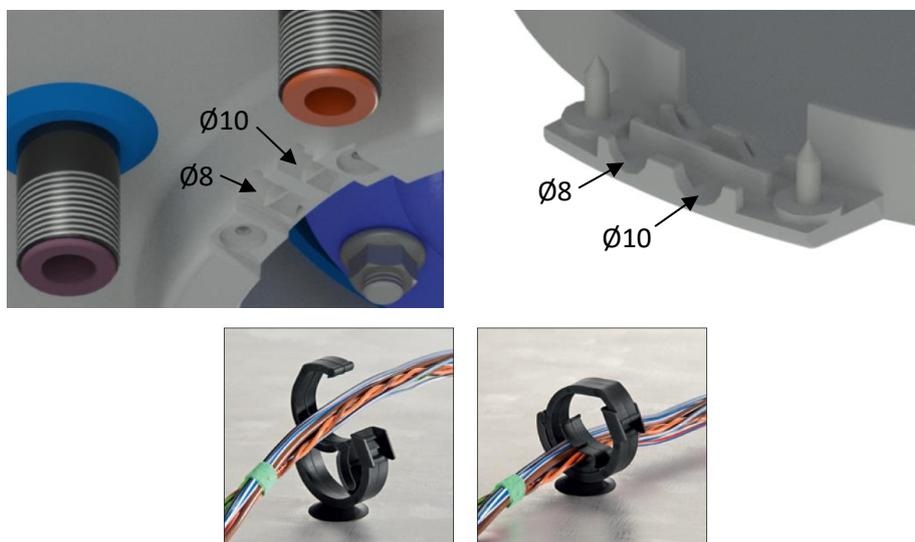
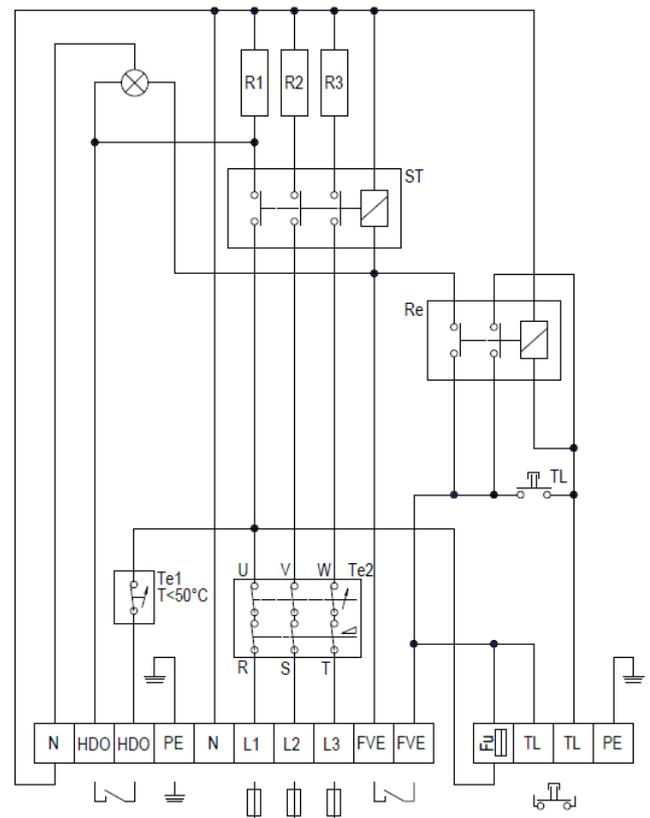

Figure 8
Figure 9
Execute the connection as indicated in the wiring diagram. Factory connection must not be changed! (Figure 9). In the electric wiring cabinet remove the partition corresponding with the input wire diameter of $\varnothing 8$ or $\varnothing 10$ (Figure 8). The degree of protection of electric parts of the heater is IP 44. Power input of electric element is 3×2000 W. Use pre-installed brackets to hold the lead cable.
- The wiring diagram is also attached to the heater on the side of the electrical installation guard (Figure 9).